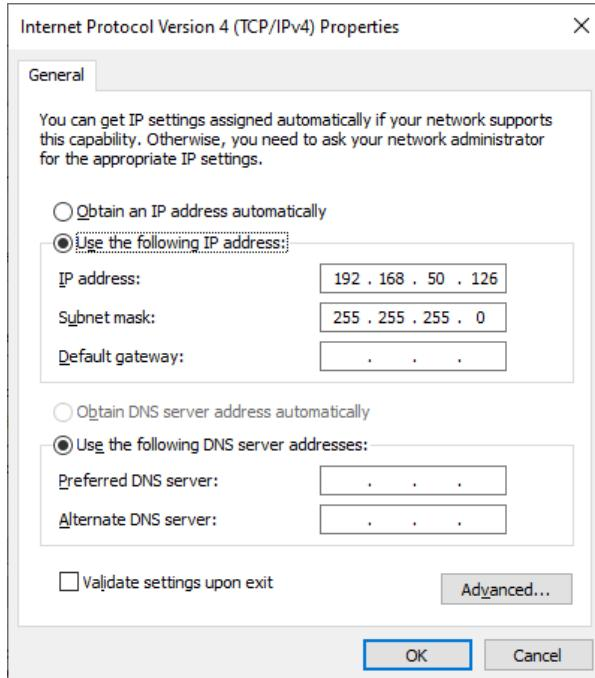

Fig. 8.7: "Internet Protocol Version (TCP/IPv4) Properties" window.
- e. Copy the configuration in **Fig. 8.7** on the "Internet Protocol Version (TCP/IPv4) Properties" window and press "OK".